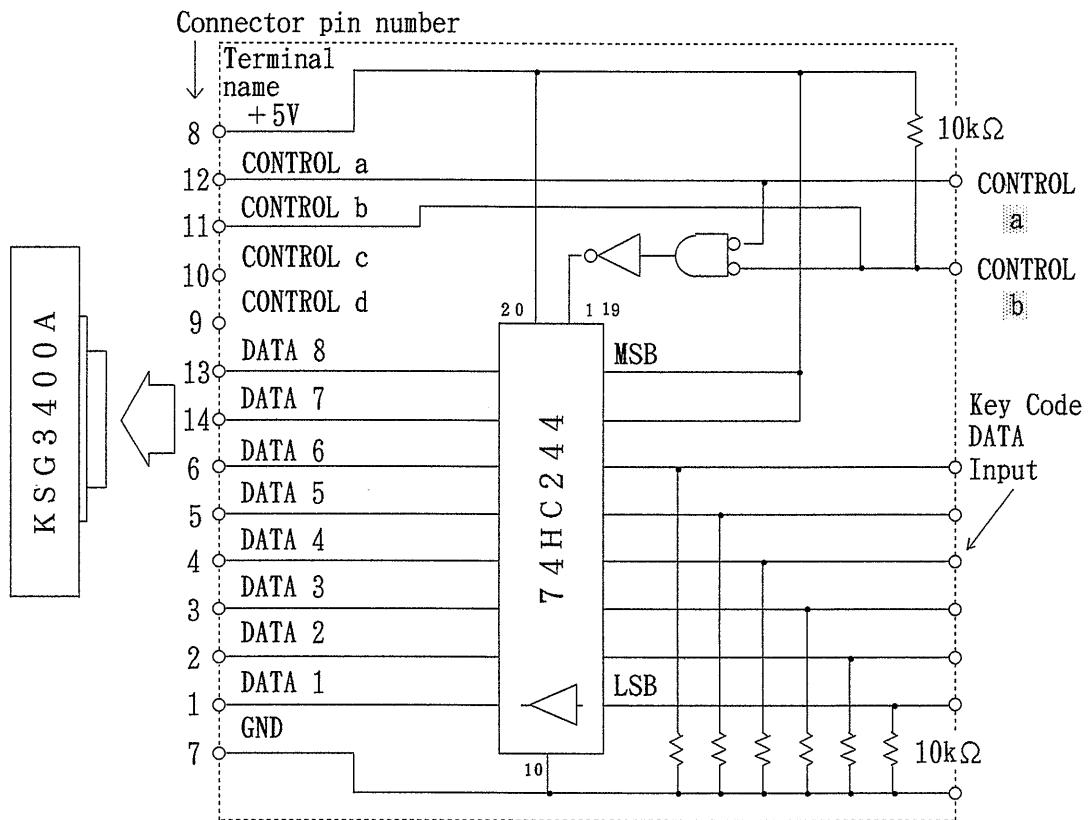
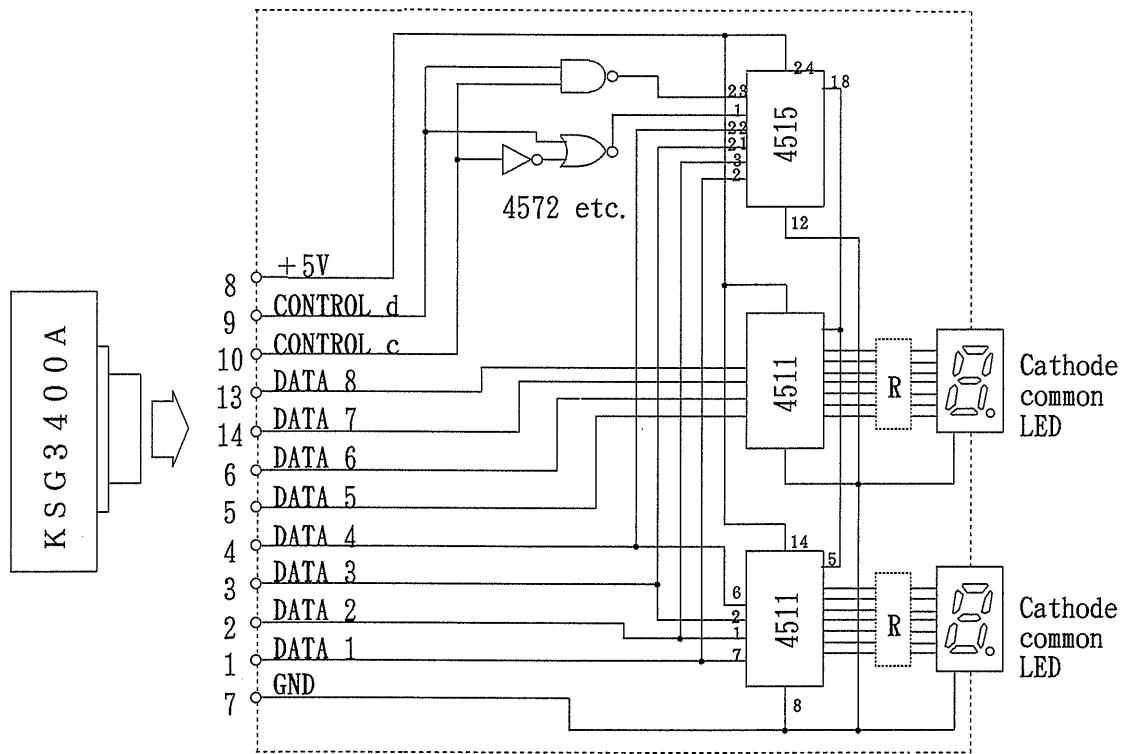

Figure 5-4
Figure 5-6
Since the data lines of the remote control connector are bidirectional bus lines, it is recommended to use the circuit shown in Figure 5-4 when controlling the signal generator from a remote unit.
Figure 5-4 shows the circuit for controlling the KSG3400A in remote mode. When CONTROL b_0 is "1", set the key code data (DATA 1-6) based on key code table (Table 5-1) to the key code data input terminal, and more than 10 μ s after the last data is stabilized, set CONTROL b_0 to "0".
Figure 5-6 shows example circuit.
Since the remote control terminal has a bidirectional bus structure, it can output the same data displayed in the ② MEMORY section of the signal generator through the circuit shown in Figure 5-6. Additionally, the data in the ② MEMORY section can be used for a process if the CMOS 4511 is replaced by a latch circuit.
If the circuit in Figure 5-4 is connected to that in Figure 5-6 by the connector section in parallel, the user can control the signal generator by a remote unit, display the data in ② MEMORY section, and check the data on the signal generator.